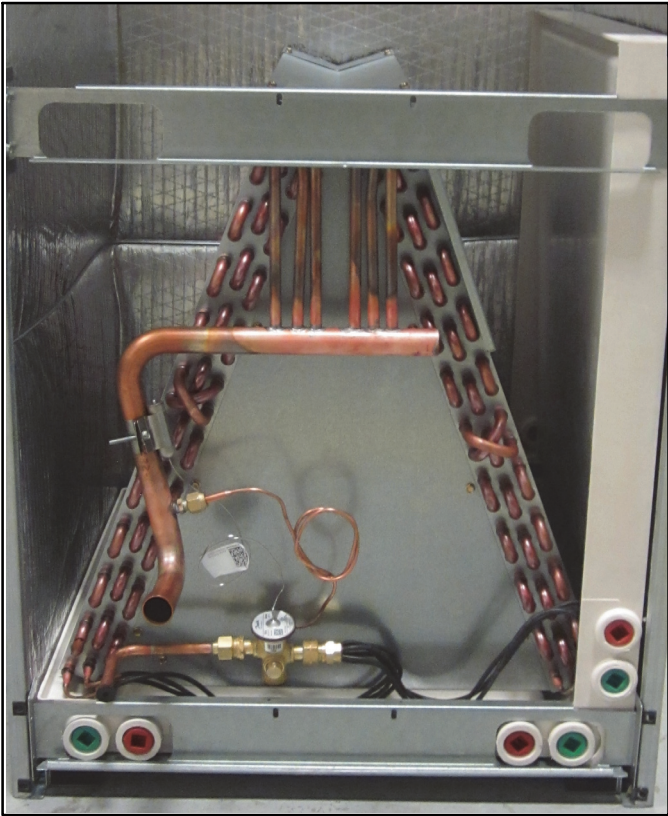

Figure 23. Reinstall Brackets that Hold the Coil and Horizontal Drain Pan in Place
7. Reinstall the brackets that hold the coil and horizontal drain pan in place. See figure 23.